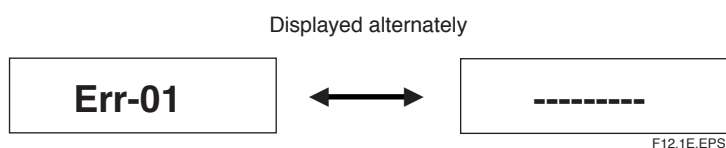
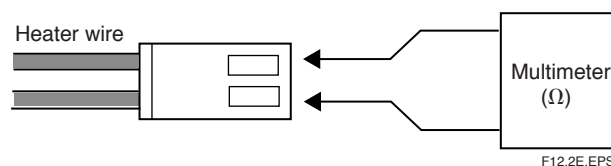

Figure 12.1
Figure 12.2
- (1) Stops the supply of power to the heater in the detector to insure system safety.
- (2) Causes an error indication in the display to start blinking to notify of an error generation (Figure 12.1).
- (3) Sends an output contact if the error is set up for “Output contact setup” for that contact (refer to Section 8.4, “Output Contact Setup”).
- (4) Changes the analog output status to the one set in “Output hold setting” (refer to Section 8.2, “Output Hold Setting”).
When the display shown in Figure 12.1 appears, pressing the error indication brings up a description of the error (Figure 12.2). The content of errors that are displayed include those shown in Table 12.1.
- 5) Remove the probe to gain access to the two connectors (four connectors for the optional automatic calibration unit), as indicated in Figure 12.2. Check these connectors are properly connected.
- (1) Turn off the power to the analyzer.
- (2) Remove the probe from the analyzer. Also remove all the connectors between the converter and probe. Measure the resistance of the heater wire (yellow wire) from the probe as indicated in Figure 12.2. The heater unit is normal if the resistance is lower than about 90Ω. If the resistance is higher than that value, the heater unit may be defective. In this case, replace the heater unit (refer to Section 11.1.3, “Replacement of the Heater Unit”).